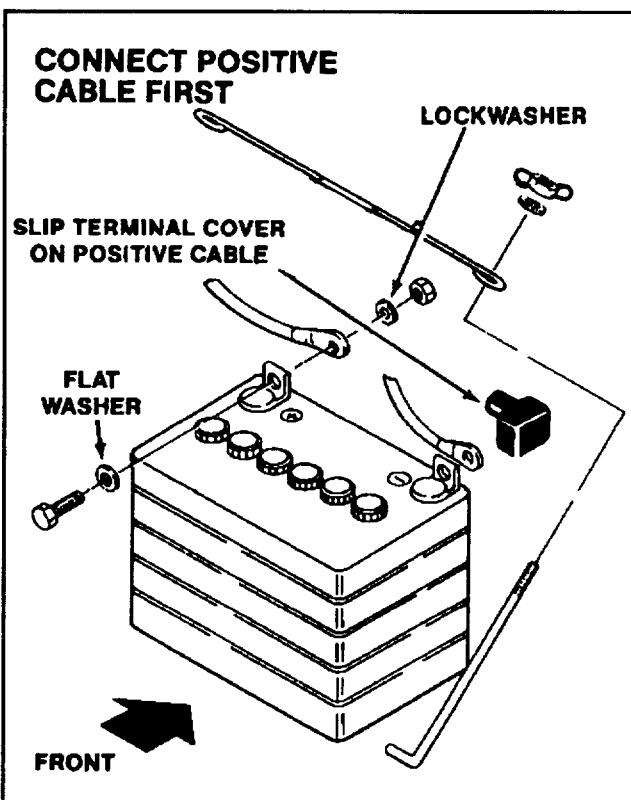

FIG. 4 - Battery Installation
1. Refer to Figure 4 and remove battery from tractor.
5. Install battery in tractor making sure terminal posts are positioned properly (Fig. 4). Install battey hold down assembly. Tighten nuts only enough to keep battery from moving. DO NOT OVERTIGHTEN.
6. Reinstall battery cables as shown in Figure 4. Grease all exposed metal surfaces of battery terminals.